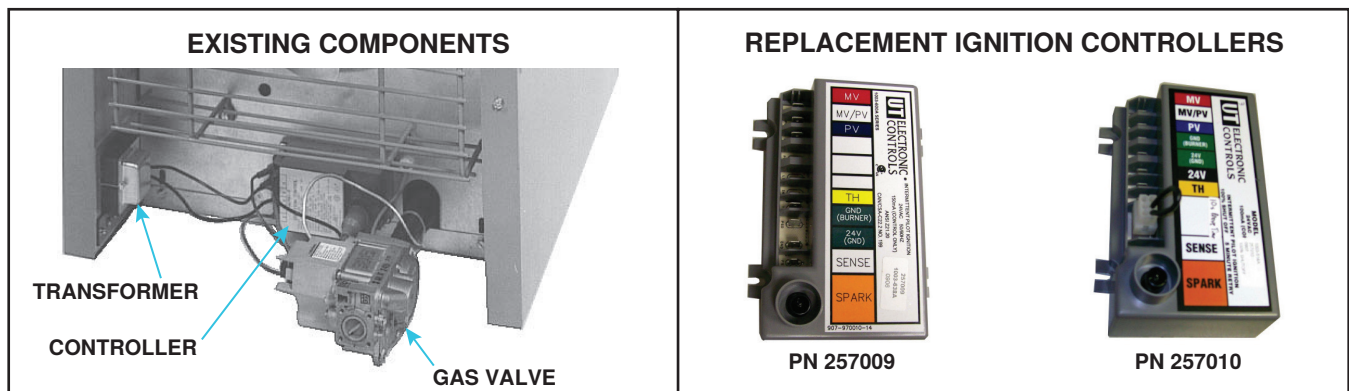

Figure 41. Component Location
- a. Disconnect main gas line from existing valve (see Figure 41).
- a. Disconnect and remove existing controller (see Figure 41).
- c. Position replacement ignition controller (see Figure 41) on bracket with wire terminals across bottom.
- a. Disconnect wires from existing transformer and remove transformer (see Figure 41).